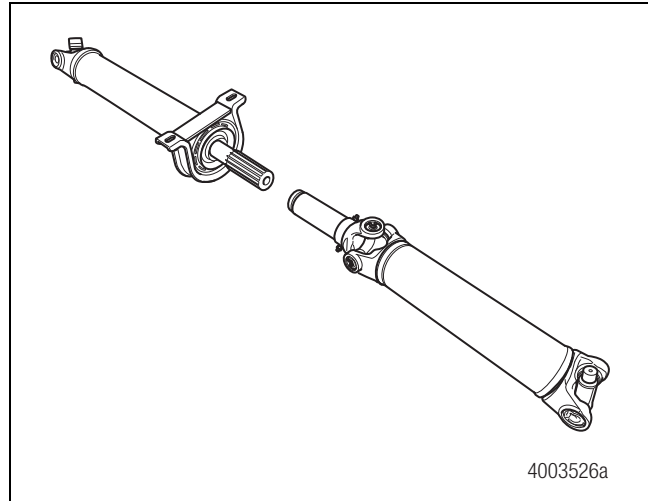

Figure 8.16
2. Pull the slip yoke and slip shaft sections apart. Figure 8.16.